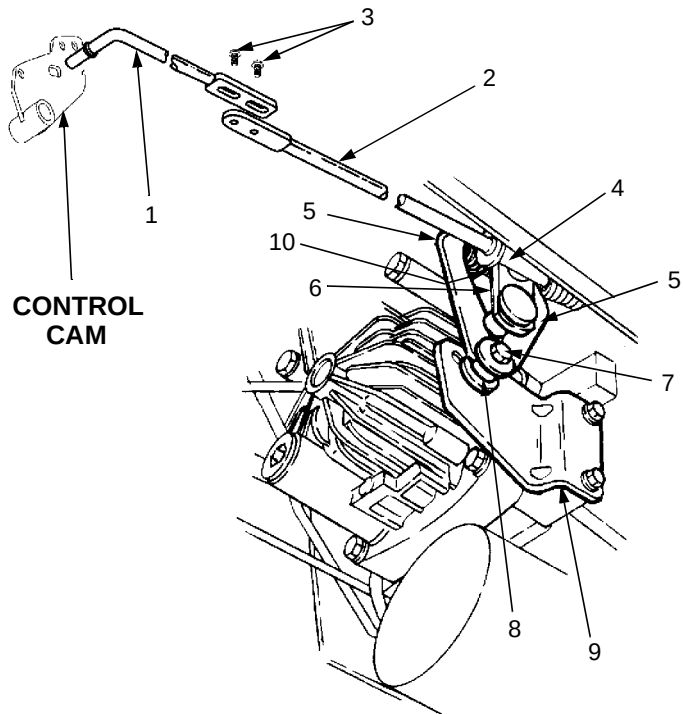

Figure 15.
- a. Disconnect the rear control rod from the control arm by removing the hairpin cotter from the pivot sleeve (Refer to Figure 15).
- c. If wheel rotation continues, loosen the locknut securing the hex cap screw and centering spacer to the neutral bracket (See Figure 15).
After completing the previous steps (1 thru 4) for checking neutral setting, adjust the control rod (See Figure 15) as follows:
2. While making certain to not move the front control rod, control cam or control arm (See Figure 15), slide the rear control rod in the direction necessary to directly align the pin of the pivot sleeve with the lower hole of the control arm.